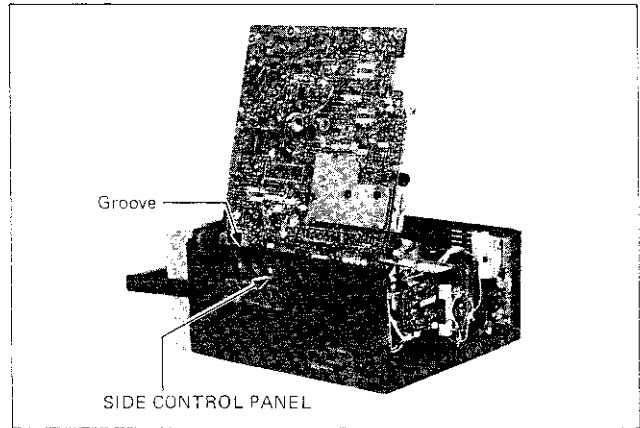

Fig. 2-2
2. After lifting and pulling both the colour TV P.C. board and the side control panel, turn the unit upside down as shown in Fig. 2-2.
3. Stand the unit in a groove of the side control panel as shown in Fig. 2-2.